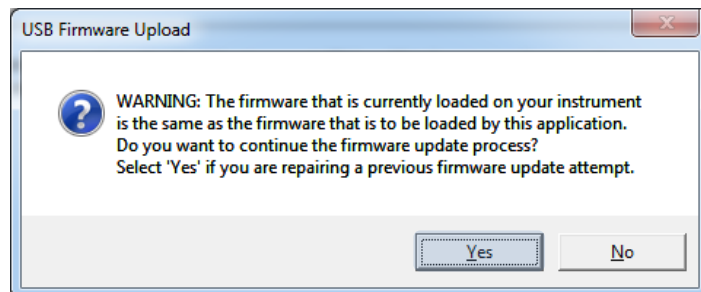

Figure 11
8. If the application detects that the firmware currently installed on the attached instrument is the same version that you are attempting to upload to it, a message displays (Figure 11).